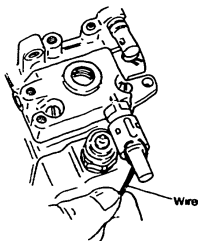

Fig. 11 Attaching the wire
2. Thread the sealing wire through the two holes and position it so that it is slanting downward. (Fig. 11)